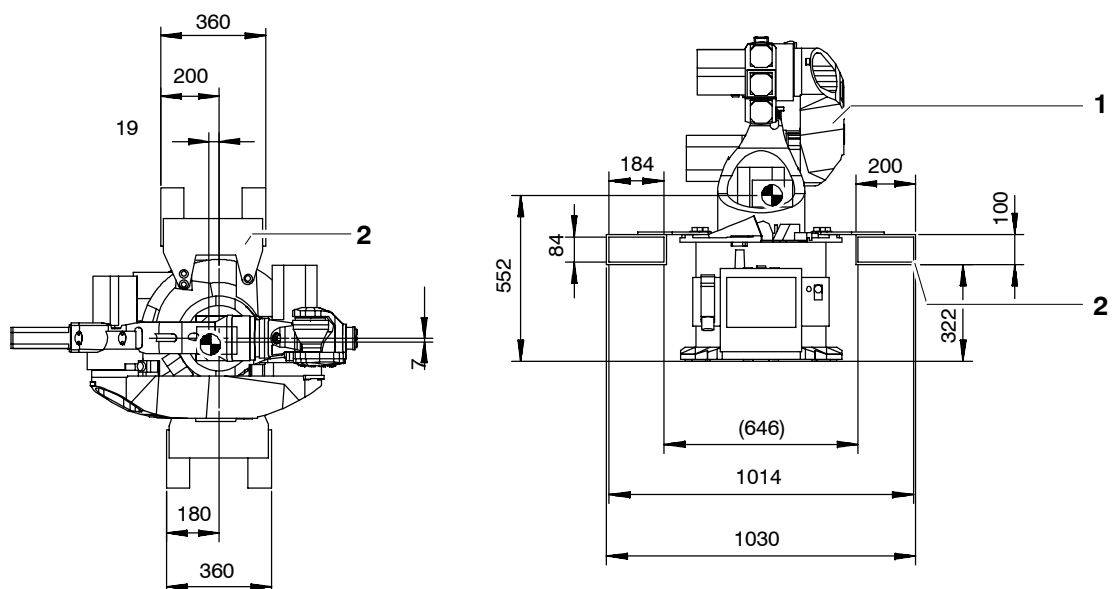

Fig. 41 Fork slots
For transportation with a fork lift truck, two removable, open-ended fork slots (Fig. 41/2) are mounted on the rotating column. This allows the manipulator (1) to be picked up from two sides.